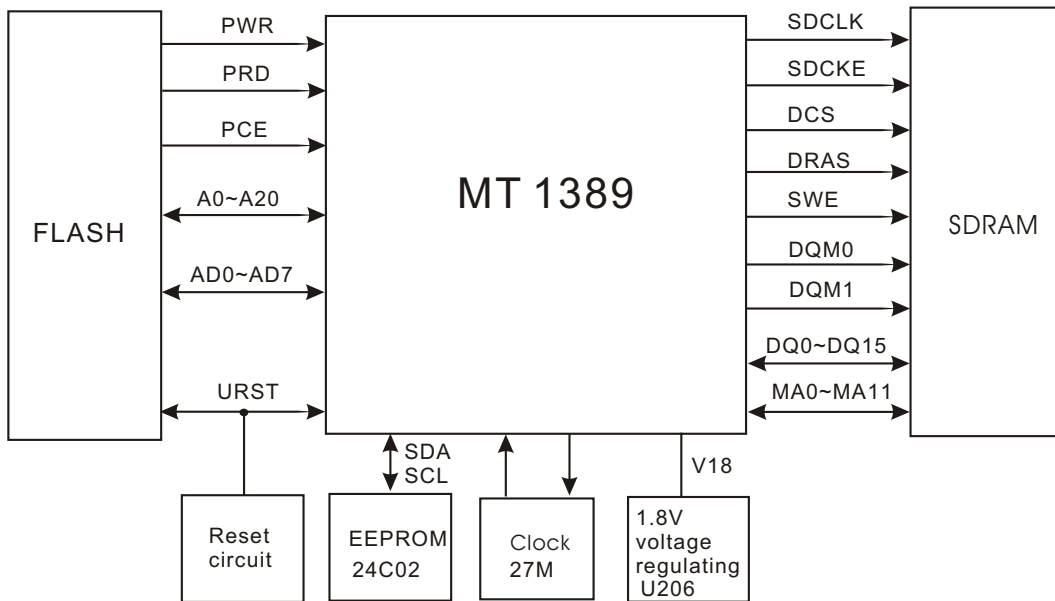

Figure 3.2.7.1 Decode circuit block diagram
1. Decode circuit block diagram is shown as in the following figure 3.2.7.1: